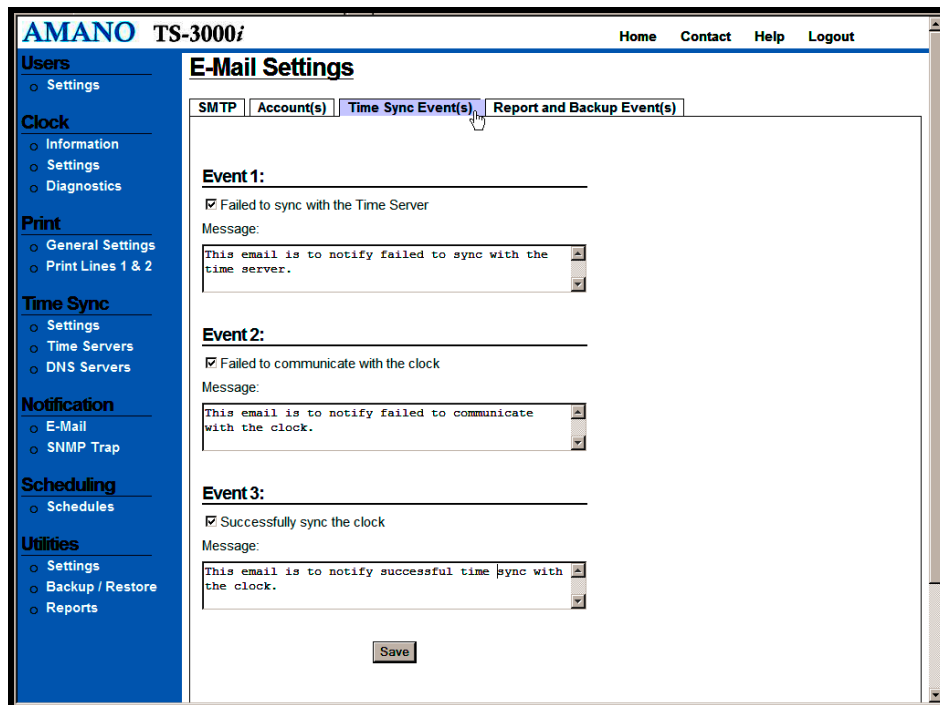

Figure 4-17: E-Mail Settings for Time Sync Events
- Step 11.** Click on the **Time Sync Event(s)** tab and the E-Mail Settings screen to select event(s) for email notification will appear (see *Figure 4-17*).